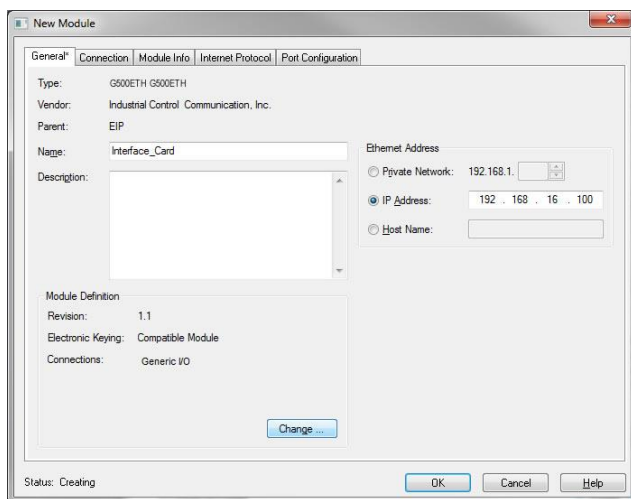

Figure 24: AOP Interface Card Module Properties
- 12) The “New Module” properties dialog box will open as shown in Figure 24.